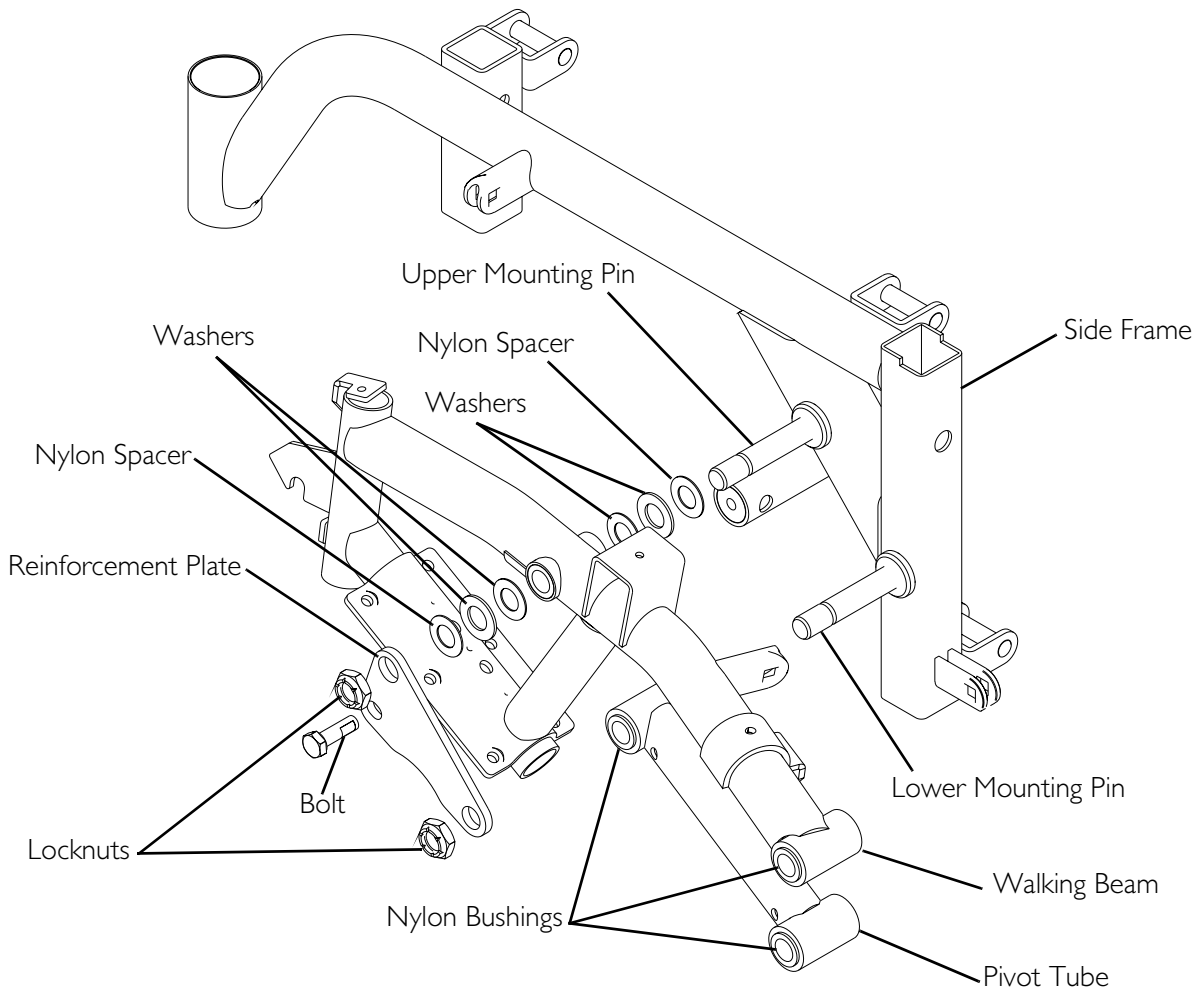

FIGURE 8.2 Disassembling/Reassembling the Side Frame Assembly
NOTE: For this procedure, refer to FIGURE 8.2 on page 77.
4. Remove the two locknuts and bolt securing the reinforcement plate to the side frame and the two washers and nylon spacer under the reinforcement plate on the upper mounting pin (FIGURE 8.2).
9. Remove the walking beam, nylon spacer and two washers from the upper mounting pin (FIGURE 8.2).